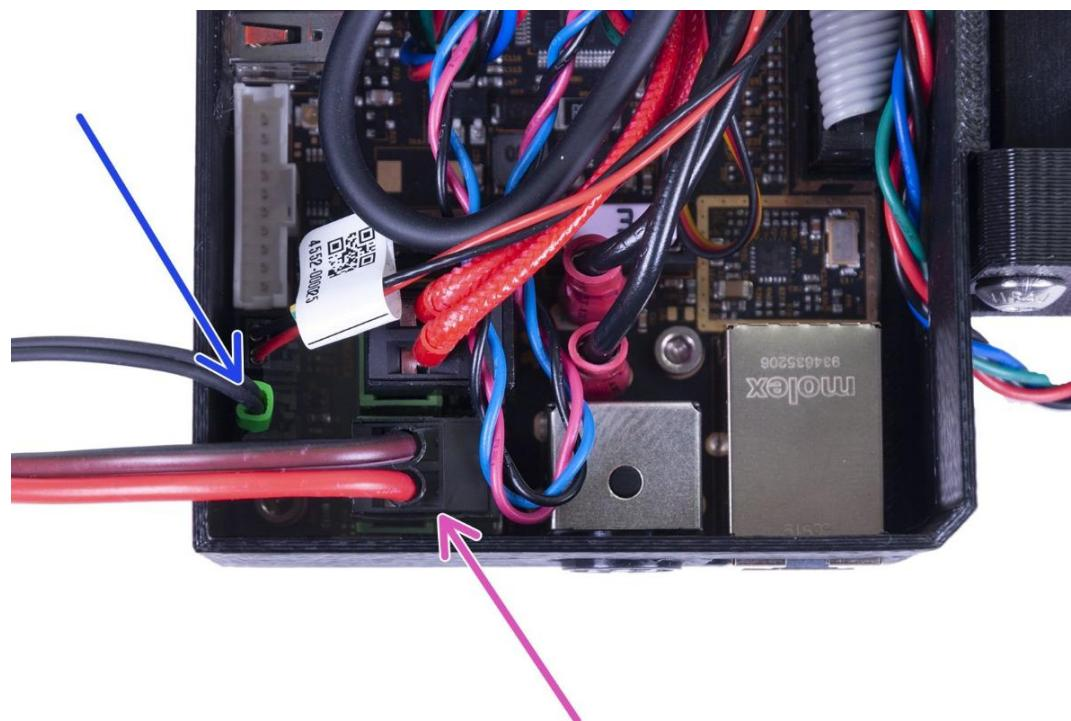

Figure 5.1.30
- A: As shown in Figure 5.1.30. Thermistor (H).
- B: As shown in Figure 5.1.30. Heatbed heater.